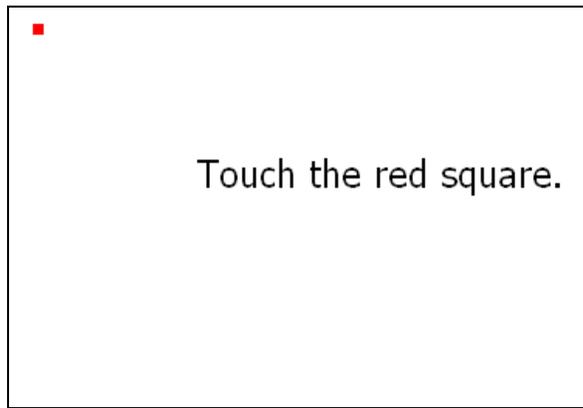

Figure 3-10: Calibration Screen
Step 9: The calibration screen in is shown. See **Figure 3-10**.